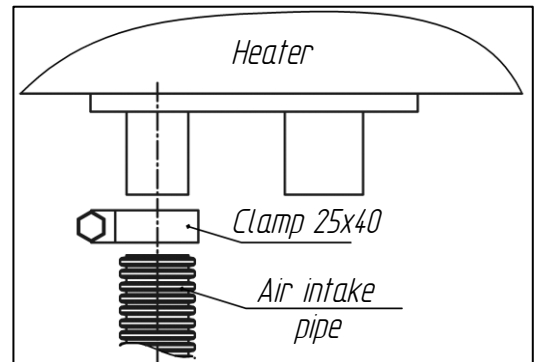
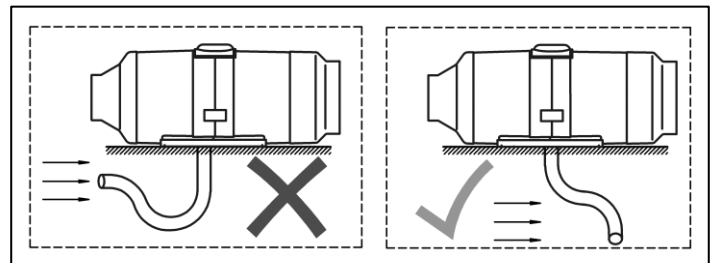

Fig. 4 – Connection of the air pipe to the heater
Fig. 5 – Position of air intake/exhaust pipe
The air intake pipe is connected directly to the pipe of the heater and fastened with a clamp. (Fig.4). When laying the air intake pipe, avoid sharp bends and do not obstruct the opening of the air intake pipe with foreign objects. Make sure its opening is pointing downwards (see Fig. 5). If that is not possible Ø3mm hole needs to be drilled at the lowest point of the pipe.
The outlet of the exhaust pipe must be installed **pointing downwards (Fig. 5)**, but it should be in such a position that would prevent clogging or entering of snow and dirt, and also provide for free drain of any water that got into it.
**Do not place the output opening of the exhaust pipe in front of the incoming airflow of the moving vehicle or vessel (see Fig. 5).**